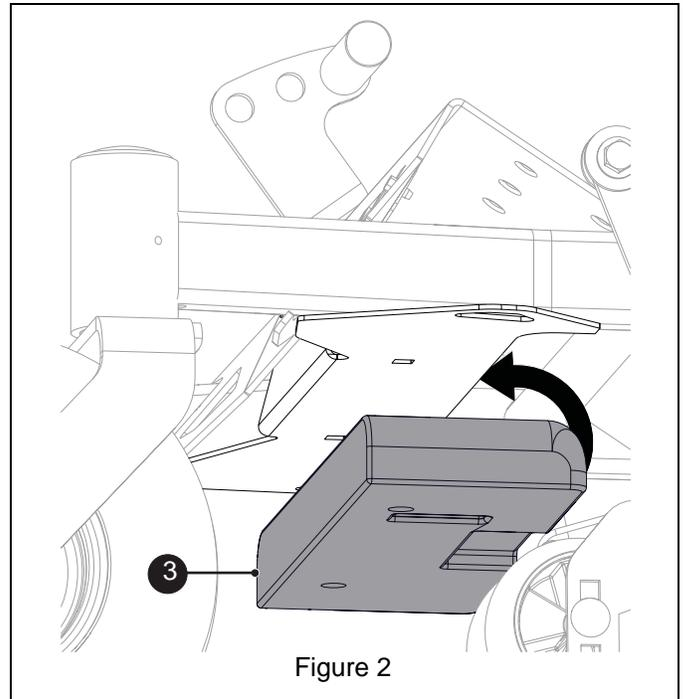

Figure 2
1. From under machine position cast iron weight (item 3) on top of crossmember below footplate. See Figure 2.